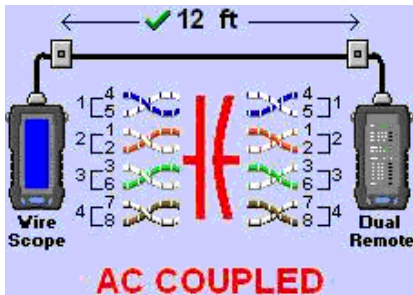
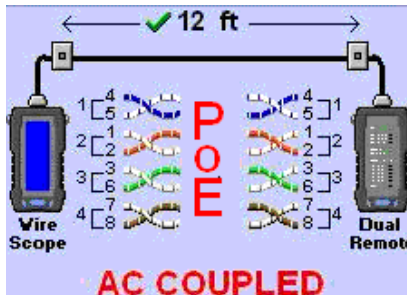

Figure 7 PoE Patch Panel
Figure 8 PoE Midspan Device
2. When performing an Autotest on non-PoE cabling, but with AC coupled testing enabled, wiremap errors may be misinterpreted in some cases as a patch panel setup (see figure 7) or a midspan device (see figure 8).